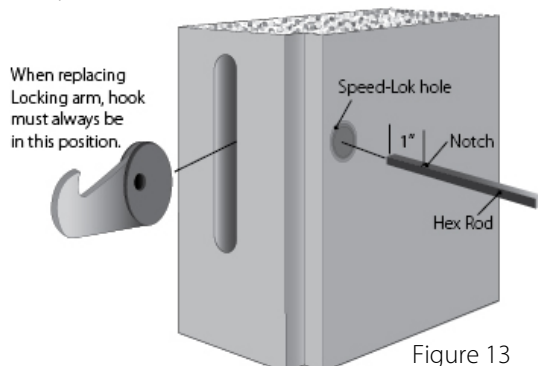

Figure 13
- B. Position the lock wrench on the hex rod and turn clock-wise until the locking arm protrudes. See *Figure 13*.